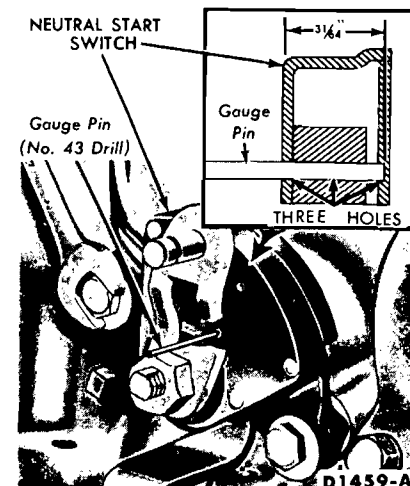

FIG. 25—Neutral Start Switch—Mustang-Cougar
1. With the manual lever properly adjusted, loosen the two switch attaching bolts (Fig. 25).
2. With the transmission manual lever in neutral, rotate the switch and insert the gauge pin (No. 43 drill shank end) into the gauge pin holes of the switch. The gauge pin has to be inserted to a full $31/64$ inch into the three holes of the switch (Fig. 25).
2. Apply penetrating oil to the downshift lever shaft and nut. Remove the transmission downshift outer lever retaining nut and lever (Fig. 25).
6. With the transmission manual lever in neutral, rotate the switch and install gauge pin (No. 43 drill) into the gauge pin hole (Fig. 25).